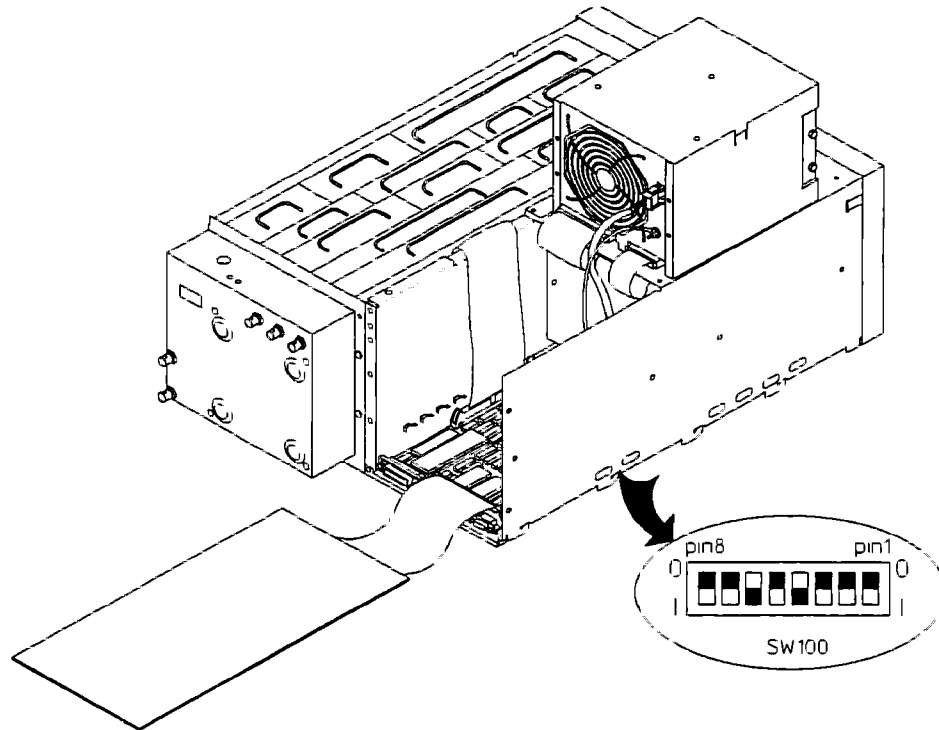

Figure 4-10. Switch Setting for Fast Bus Test
2. On the CPU assembly, set SW100 pin 4 and pin 6 to one (see figure 4-10).
3. Set the power switch to ON (1). The screen displays Fast Bus Toggle Test in progress... Also the power-on test LEDs alternately flash hexadecimal AA (DS707, DS705, DS703, and DS701 are on) and hexadecimal 55 (DS706, DS704, DS702, and DS700 are on). If the analyzer did not respond correctly, the CPU assembly is probably faulty.